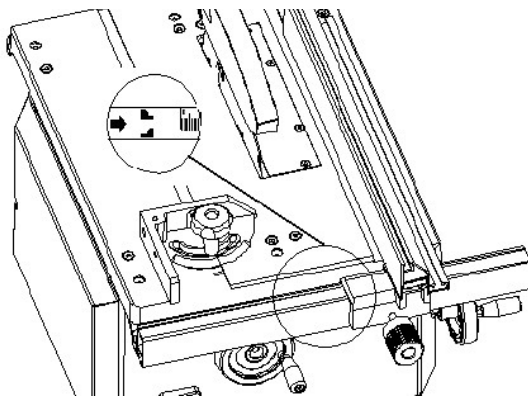

Fig. 25: Insertion of the longitudinal stop TKS 200
Step 1: Slide the lengthwise stop into the guide groove provided for this purpose and fasten it with the left-hand hexagon socket screw (Fig.25). First set the longitudinal stop on the stop side in order to align it exactly with the guide rail to the saw blade.